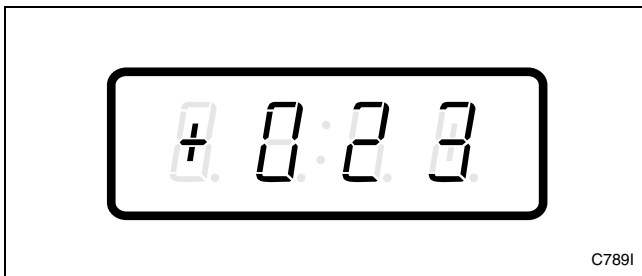

Figure 98
3. Press the DELICATES (+) or the COLD (-) keypad to scroll through the programmable options until “+023” appears in the VFD. Refer to *Figure 98*.